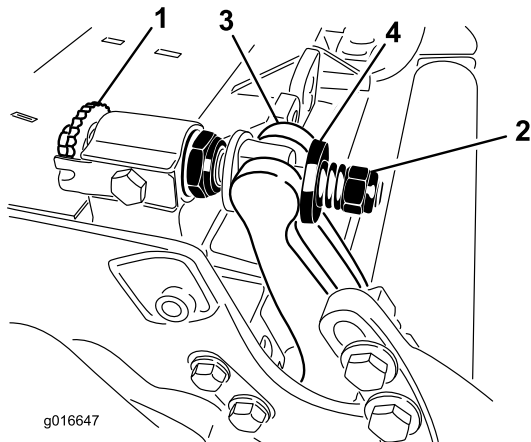

Figure 28
1. Turn the bedbar-adjuster screws counterclockwise to back the bedknife away from the reel (Figure 28).
2. Back out the spring-tension nut until the washer is no longer tensioned against the bedbar (Figure 28).